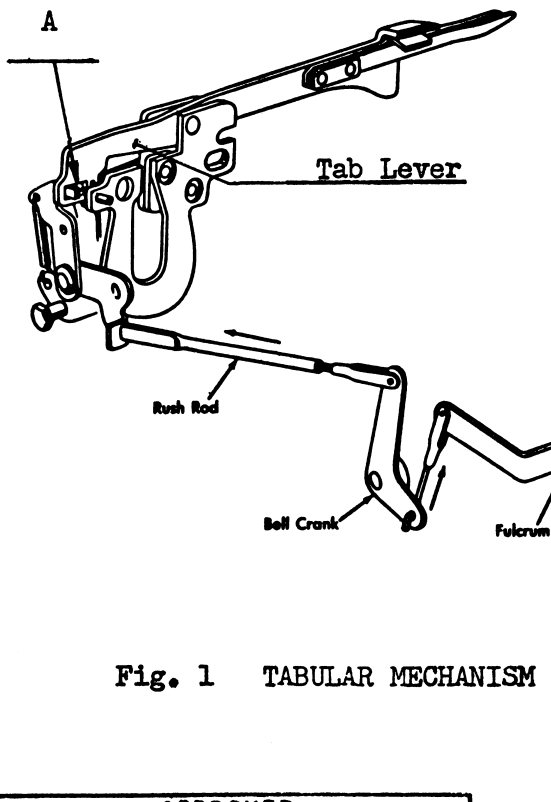

Fig. 1 TABULAR MECHANISM
2. TABULAR MECHANISM The tab-lever at Point A, Figure 1.